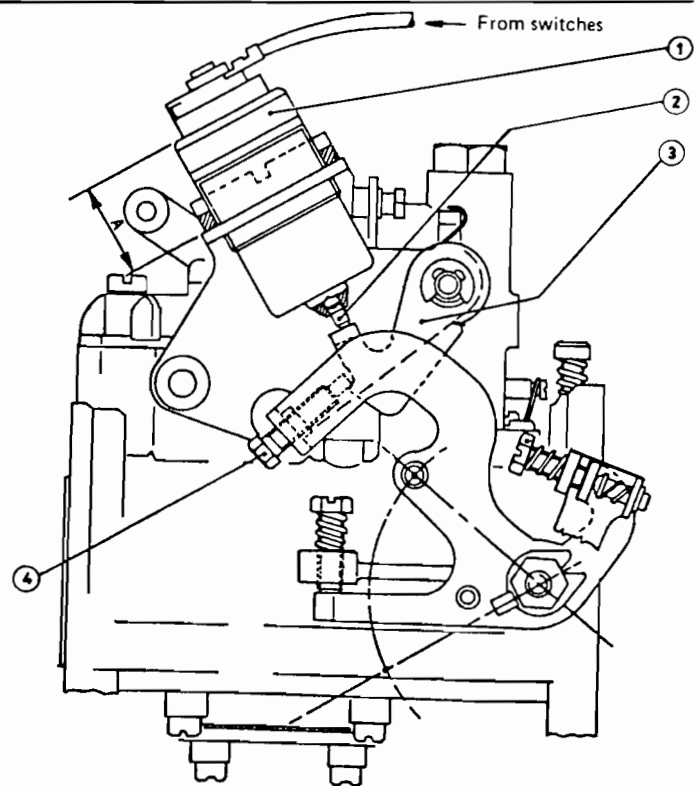

Fig. 13.7 Location of idle solenoid valve on Dellorto DHLA 40H carburettor (Sec 5)
23 Should any adjustment be required to the second opening 'fast idle', disconnect the power feed wire from the solenoid, increase the engine speed to between 1700 and 2000 rpm and turn the screw (4) (Fig. 13.7) until this speed is held. Reconnect the power feed.